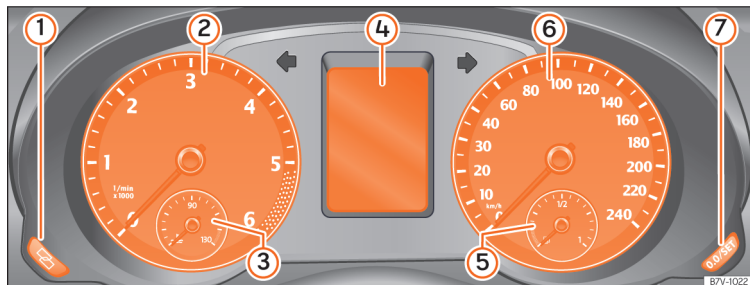

Fig. 75 Instrument panel, on dash panel.
Details of the instruments » Fig. 75:
- Press button  » **Fig. 75**  to reset the trip recorder to 0.